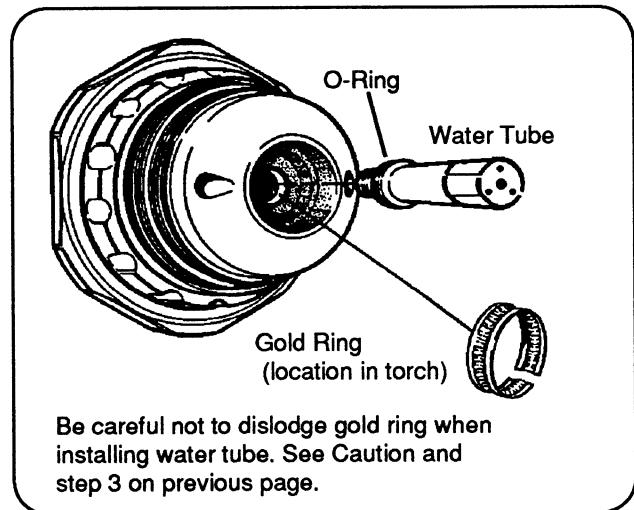

Figure 2 Install New Style Water Tube
3. After the water tube has been removed, clean the inside of the torch using low pressure compressed air or water. Carefully clean out the seat area of the water tube of any residue using a cotton swab. Be careful not to dislodge the gold band from the groove. If the gold ring gets dislodged, reinstall it by referring to Fig. 2.